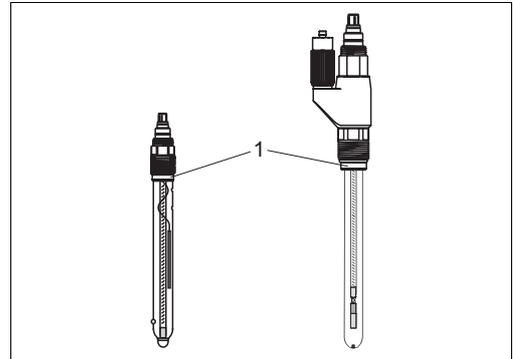

Fig. 13: Sensor installation
1. Remove the protection cap from the sensor. Make sure the sensor shaft is fitted with the O-ring and the thrust collar (Fig. 13).